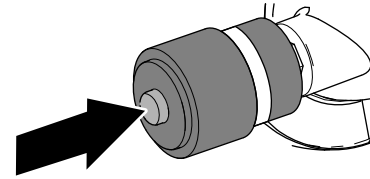

Figure 111
1. If a red band displays in the service indicator, press the reset button at the end of the indicator (Figure 111).